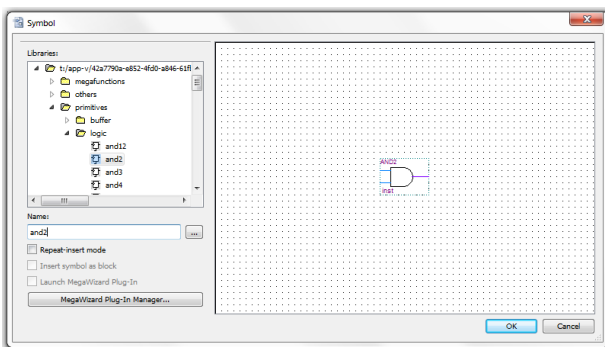

Figure 4.3.4: Component added
6. Navigate the “Libraries” to display the different categories of symbols (Figure 4.3.4).